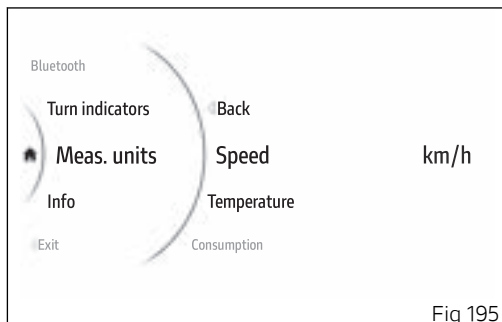

Fig 195
- Use buttons (1) and (2) from the Interactive Menu to select the Setting menu item and press ENTER (3).
- Select the Measurement Units item and press ENTER (3).
- Select the Speed item and press ENTER (3) (Fig 195).